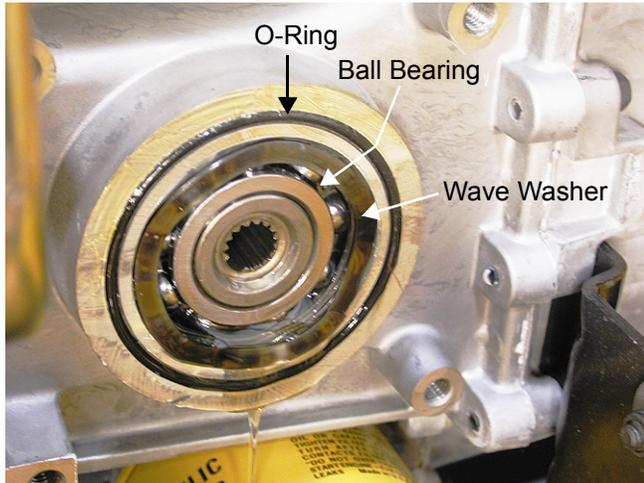

Figure 8
17. Replace the o-ring. See Figure 8.